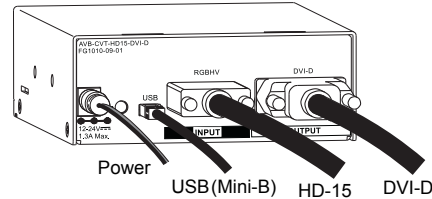

FIG. 3 Attach connectors & power to converter
1. Plug the power supply into the power jack on the converter and into an external AC power source (FIG. 3). If you are providing the power supply – Plug the power cord from a UL (or equivalent) listed power supply into the power jack on the converter (FIG. 3). The electrical ratings must meet those indicated in the specifications table.
2. Attach one end of the USB (Mini-B) cable to the running Control PC (see the "Equipment & Requirements" section below) and the other end to the converter (FIG. 3). Windows should recognize the new device as an HID device and install default drivers.